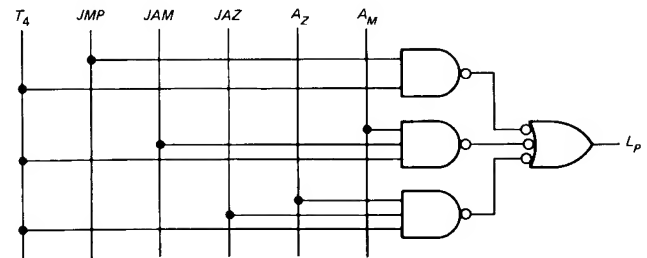

Fig. 3-34
- 3-25. In Fig. 3-34 the inputs are T_4 , JMP , JAM , JAZ , A_M , and A_Z ; the output is L_P . What is the output for each of these input conditions?